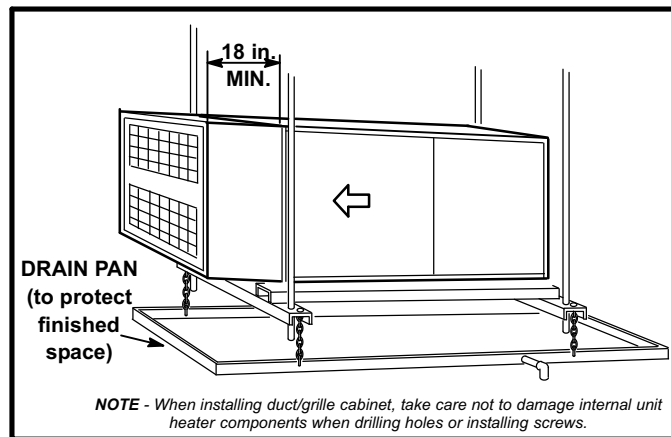

FIGURE 20
A field-fabricated and installed discharge air duct and grille cabinet is suitable for use with the G51MP heater. See figure 20. Keep the following items in mind when constructing the cabinet.
- 1 - Outer dimensions of cabinet should match those of the unit heater, so the duct/grille cabinet installs flush with the unit heater cabinet. See figure 20.
- 4 - Use #10-16 x 1/2 inch sheet metal screws to secure duct/grille cabinet to unit, taking care not to damage internal components of unit heater when drilling holes or installing screws. See figure 20.